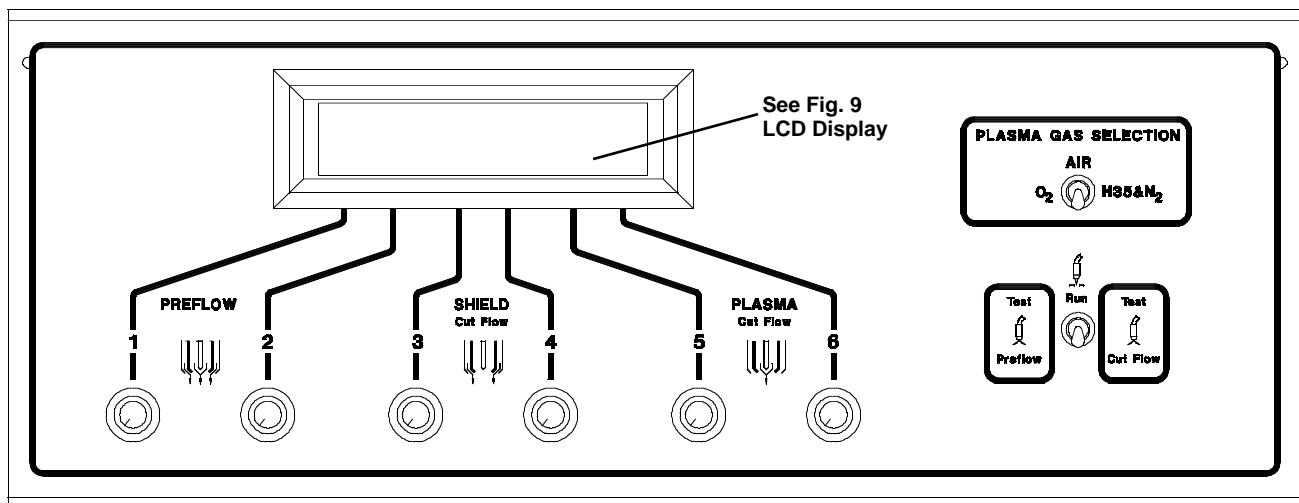

Figure 8 Front Panel Controls and Indicators
The front panel controls, Fig. 8, are under manual control only when the **REMOTE/LOCAL** toggle switch on the rear panel is set to the **LOCAL** position. Note that the LCD display is active in either mode.
The LCD display is divided into functional fields. When operating in either the local or remote mode, the following data, as shown in Fig. 8, are displayed.
- Depress **POWER ON (1)** switch (PB1) until the **STATUS-COOLANT FLOW LED** lights.
- Ensure the green **POWER ON** indicator (LT1) remains lit. If not check the **STATUS** LEDs on the power supply and check for plasma and gas system error messages on the gas console LCD display. Refer to Fig. 8 and the *Error Messages* list.